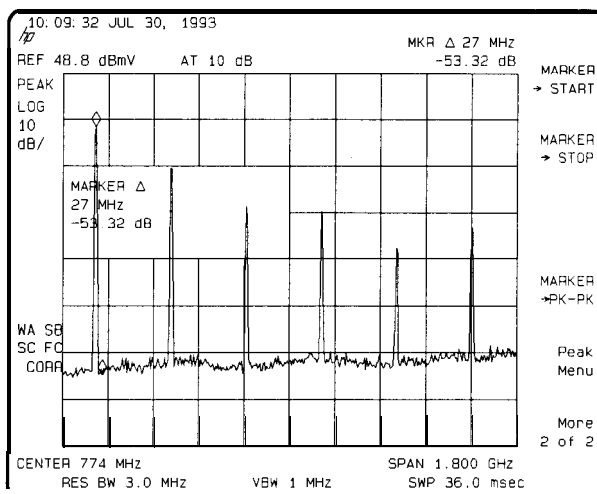

Figure 4-13. Using the Marker to Peak/Peak Function
5. The **MARKER →PK-PK** softkey can be used to find and display the frequency and amplitude difference between the highest- and lowest-amplitude signals. To use this automatic function, press **(MKR→)**, More **1** of 2 , **MARKER →PK-PK**. See Figure 4-13.